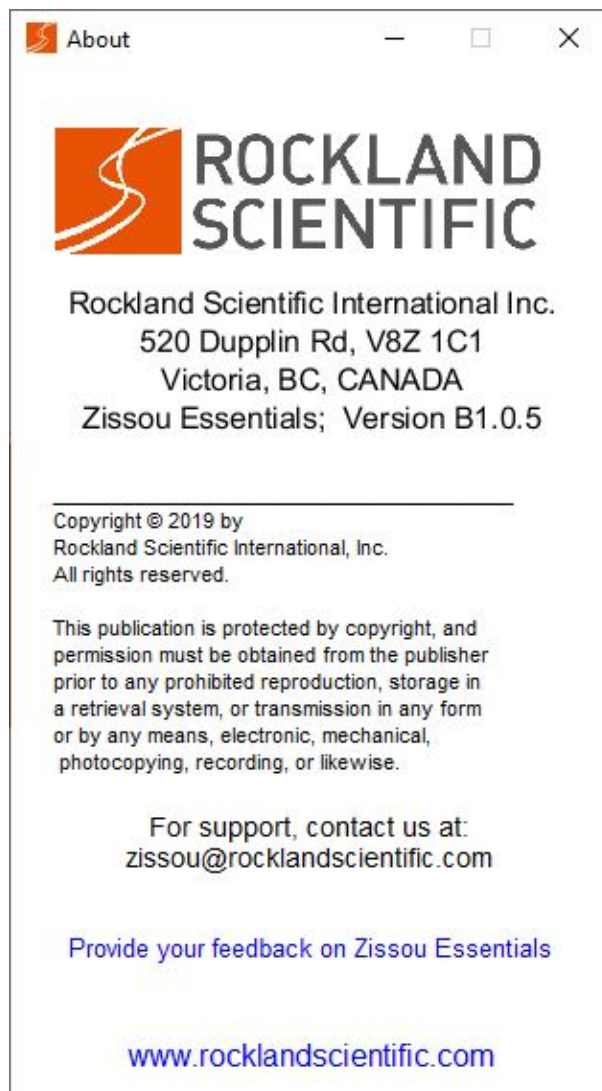

Figure 26: Zissou About page. The two link at the bottom of the window lead respectively to a Zissou Essentials feedback form and the Rockland website.
- The specific version of your copy of Zissou Essentials. You can find your version number through *Help* → *About Zissou* where your version number is highlighted in Figure 26.